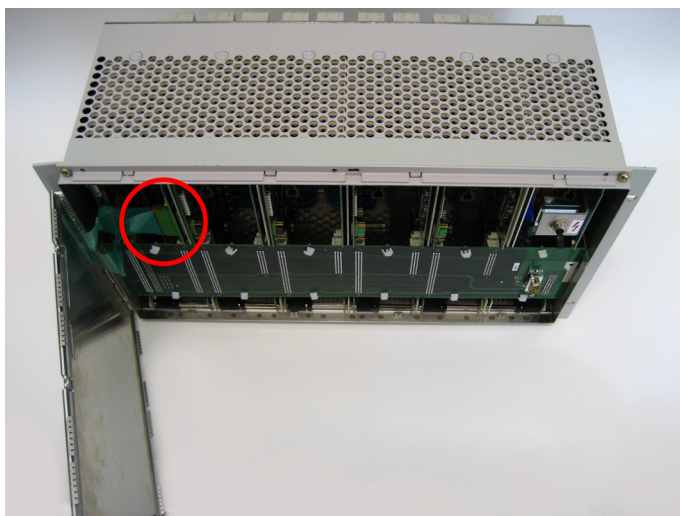

Figure 2-4 Connecting the ribbon cable
- Carefully pull the plug connectors of the two ribbon cables out of the CPU board and set the front plate aside (see Figure 2-4).